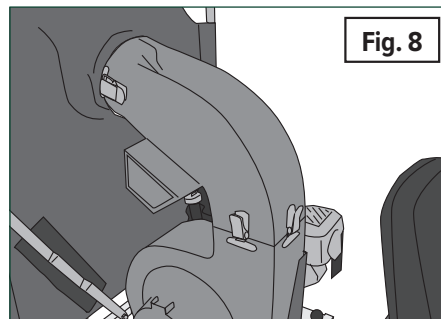

Fig. 8
- (**Fig. 8**) Connect the curved plastic elbow marked "**BLOWER**" onto the blower intake opening and secure it with the two latches.
1. **(Fig. 8)** Connect the bottom of the exit chute onto the top of the Engine/Blower Unit. Be sure all three latches are secured.